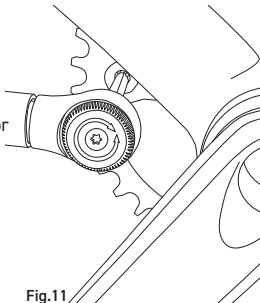

Fig.11
- Use a torque wrench to tighten the screws to **8 Nm (71 in.lbs)** for Ekar and to **10 Nm (88 in.lbs)** for Ekar GT (Fig. 11).